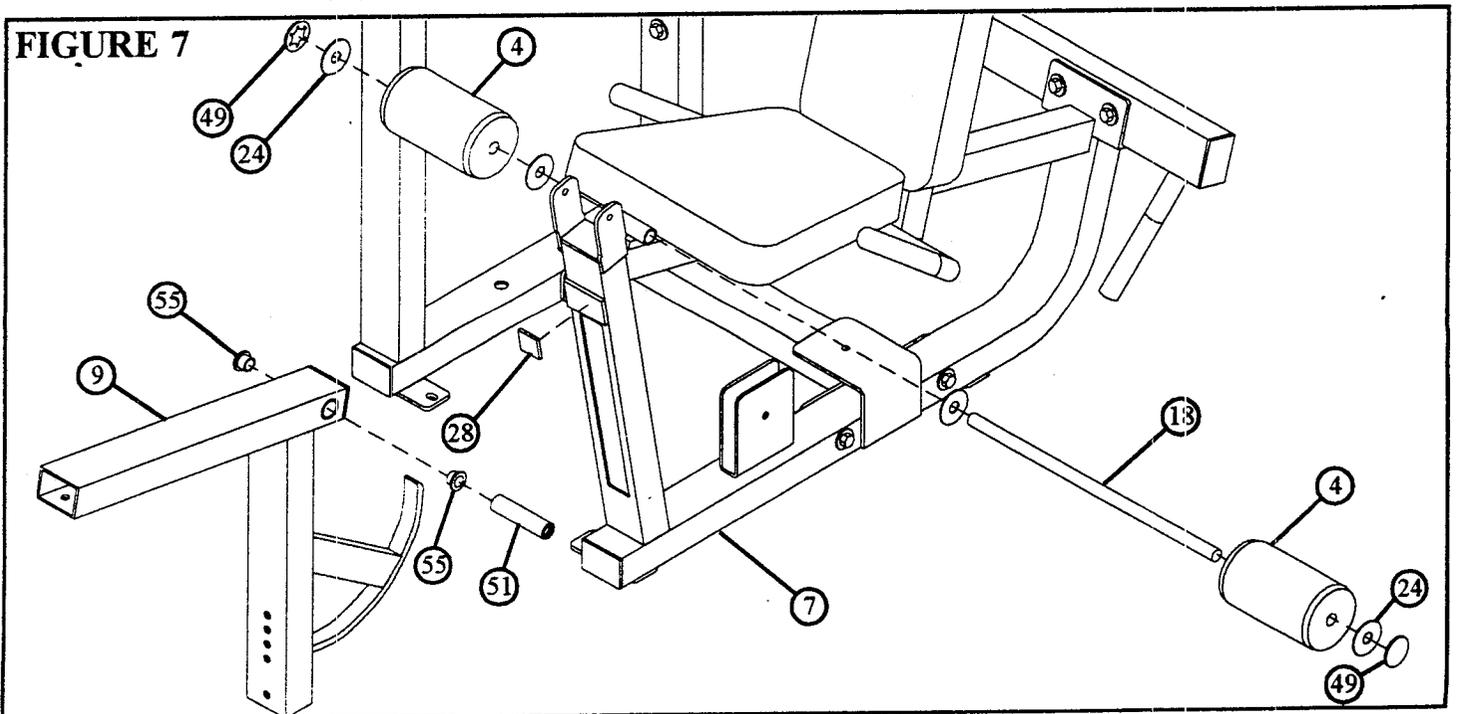

**FIGURE 6**
- SECURELY assemble BACK PAD (14) to the RIGHT & LEFT PAD SUPPORTS (12) (13) using four 3/8 X 2-3/4" BOLTS (36) and four 3/8" WASHERS (41) as shown in FIGURE 6.